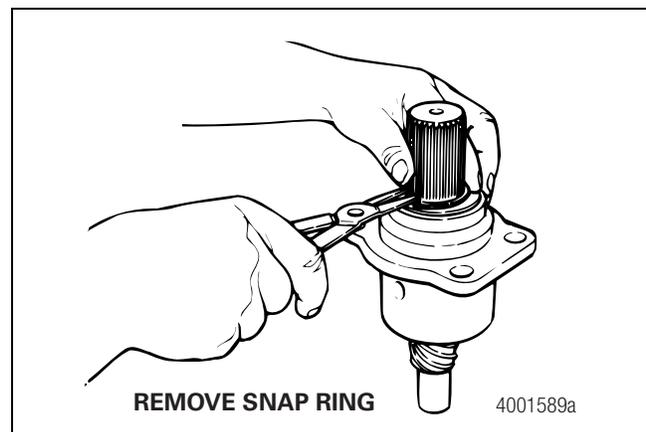

Figure 7.3
6. Use snap ring pliers to remove the snap ring from the camshaft. Figure 7.3.